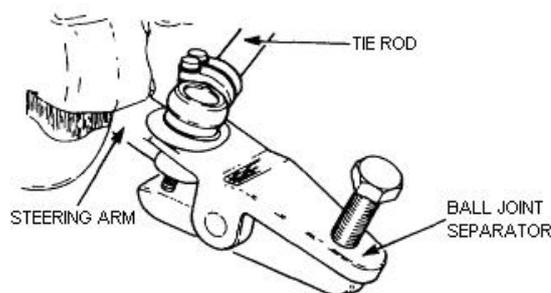

Figure 163 Steering Linkage Removal
- Using the ball joint separator (Table 3, Serial 13), disconnect the tie rod ends from the steering arms (Figure 163) and remove the tie rod from the vehicle.